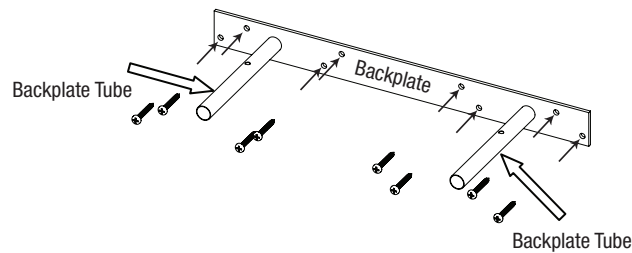

Figure 3
STEP 3: Mount the backplate to the wall using the screws, as shown in **Figure 3**.